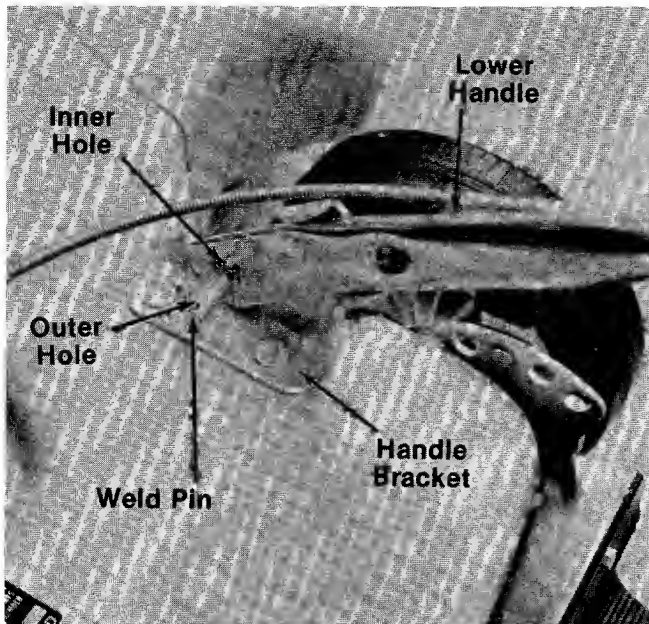

FIGURE 8.
2. Fasten lower handle in position over weld pins in handle mount brackets on deck. Secure with hairpin cotters in inner hole on weld pin. See figure 8.